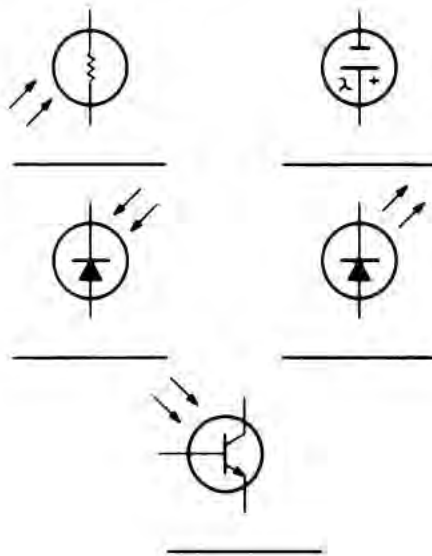

Figure 3-61
48. Identify the schematic symbols shown in Figure 3-61.